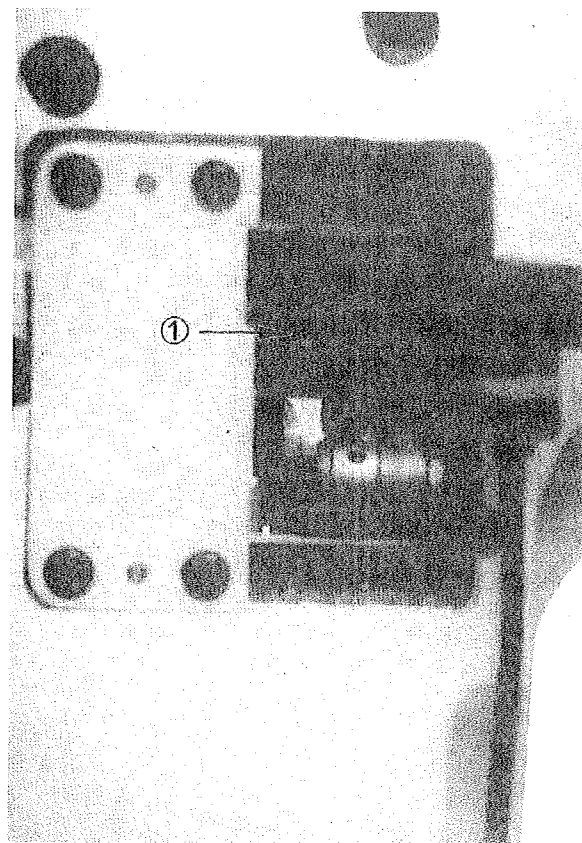

Fig.16
1. Remove the cover (G, Fig. 3) and loosen the screw (①, Fig. 16) slightly.